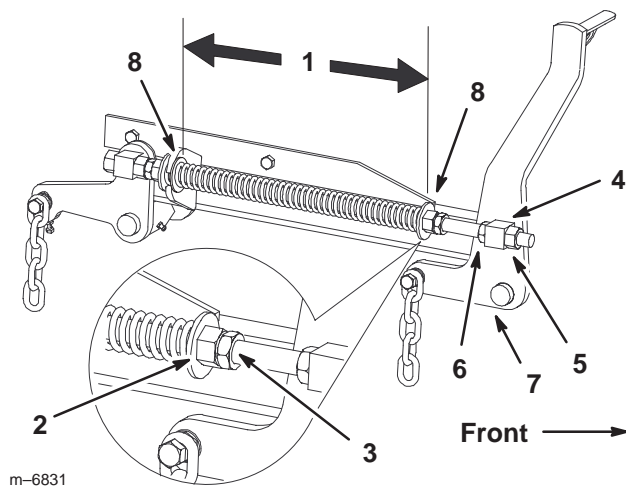

Figure 71
7. Loosen the front swivel jam nuts, at the front of the right and left swivels, approximately a 1/2 inch (13 mm) (Fig. 71).
8. Adjust the lift nuts on both the left and the right side of the machine to achieve **1/4 to 3/8 inch (6 to 10 mm) lower in front at A than in the rear at B** (Fig. 71).
2. Check the distance between the two large washers, it needs to be 10–1/2 inches (26.7 cm) (Fig. 71).
3. Adjust this distance, by loosening the spring jam nut and turning the nut in front of each spring (Fig. 71). Turning the nut clockwise will shorten the spring; counter-clockwise will lengthen the spring.
4. Lock the nut into position by tightening the spring jam nut (Fig. 71).